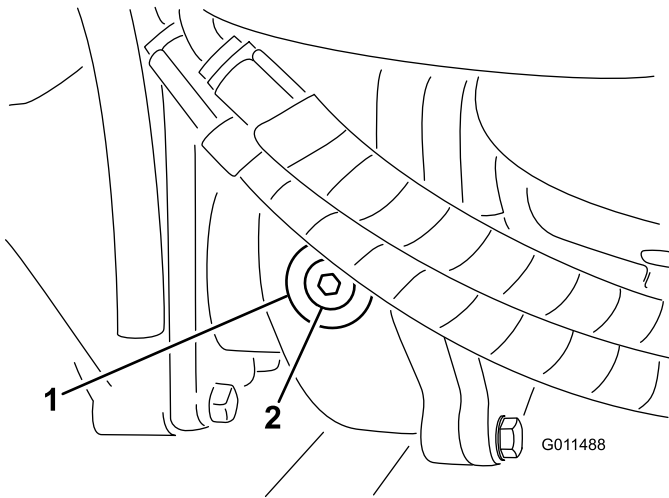

Figure 74
- Remove the check/fill plug from the left side of the gear box (Figure 74) and make sure that lubricant is up to the bottom of the hole. If the